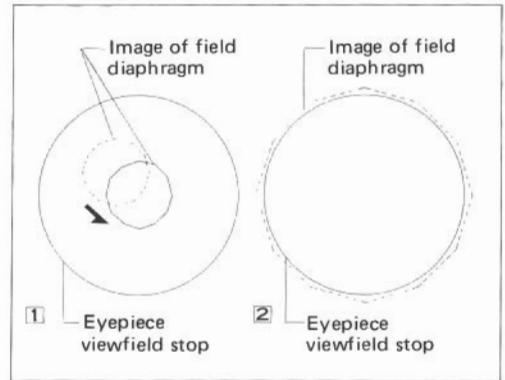

Fig. 16
(Fig. 16-①)
- 3) Change over to the objective $40\times$, and adjust the field diaphragm so that the image of the diaphragm is about the same as the eyepiece viewfield stop, as shown in Fig. 16-②. If not centered, use the condenser centering screws again.